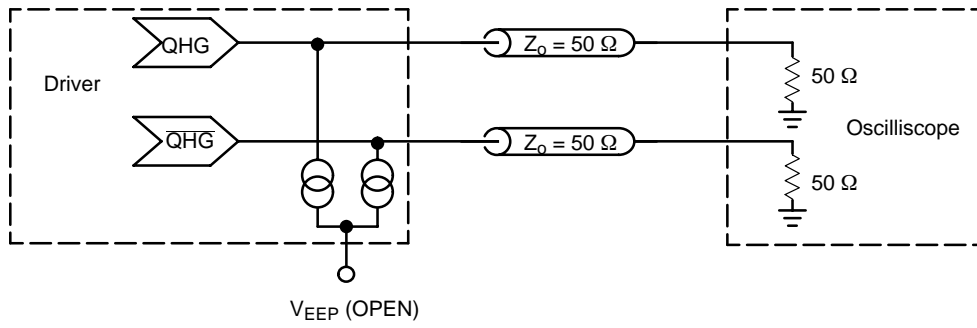
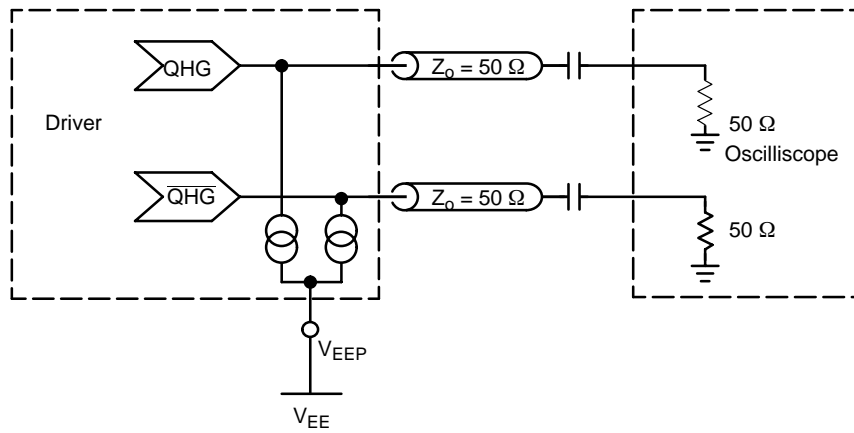

Figure 11. QHG/ $\overline{\text{QHG}}$ Device Evaluation Set-up; $V_{EEP} = \text{OPEN}$
Figure 12. QHG/ $\overline{\text{QHG}}$ Device Evaluation Set-up; $V_{EEP} = V_{EE}$
- QH \bar{G} /QH \bar{G} outputs loaded with 50 Ω to $V_{CC} - 2.0\text{ V}$ ($V_{EEP} = \text{OPEN}$) Figure 11 or with optional current source ($V_{EEP} = V_{EE}$) Figure 12. Q/Q outputs loaded with 8 mA current source (CS_SEL = V_{EE}).
13. QHG/QHG outputs loaded with $50\ \Omega$ to $V_{CC} - 2.0\text{ V}$ ($V_{EEP} = \text{OPEN}$) Figure 11 or with optional current source ($V_{EEP} = V_{EE}$) Figure 12.
17. QHG/QHG outputs loaded with $50\ \Omega$ to $V_{CC} - 2.0\text{ V}$ ($V_{EEP} = \text{OPEN}$) Figure 11 or with optional current source ($V_{EEP} = V_{EE}$) Figure 12.
24. Assumes 50% Input Duty Cycle, see Figures 11 or 12.